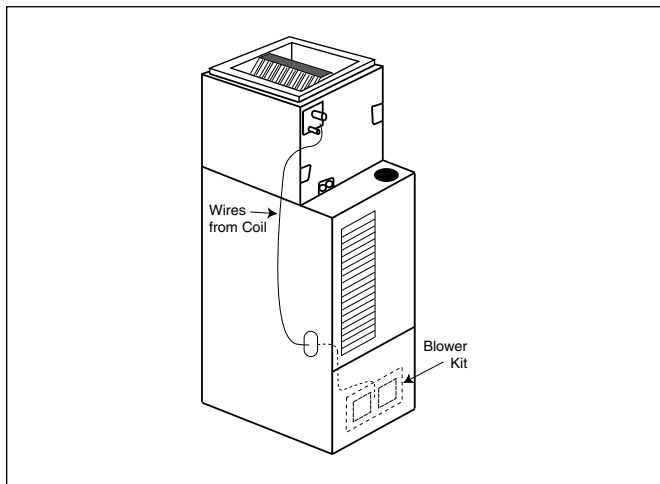

Figure 2. Upflow Installation
A. Upflow Furnaces (See Figure 2)